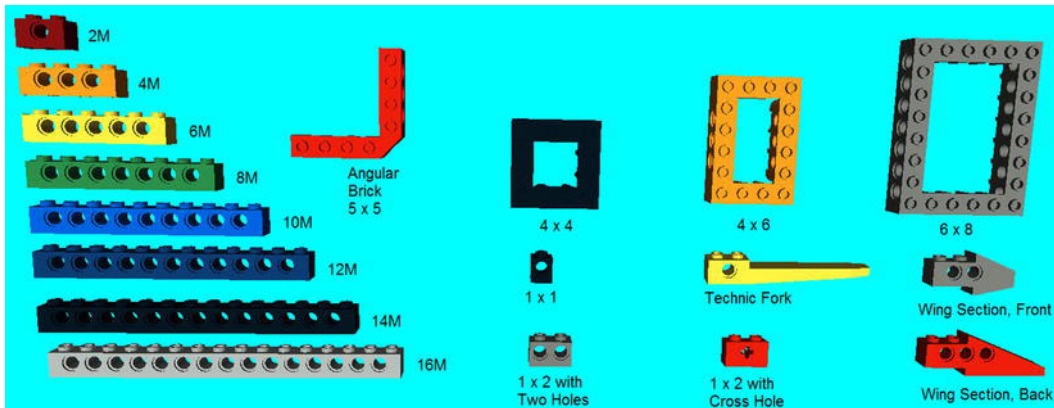

Figure 1-1. Some traditional LEGO Technic bricks
Technic Bricks are just like traditional LEGO bricks but with holes on the sides for axles and connector pegs (see Figure 1-1). Bricks, like most LEGO pieces, are measured by the amount of studs (the round bumpy parts atop a normal LEGO brick) on them, and this measurement is often abbreviated to M. Generally, the number of side holes is always one less than the studs, but there are some, like the 1 x 1 x 1 and 2 x 1 x 1, with the same amount of side holes as studs. There are some interesting methods to these pieces; for instance, the 2 x 1 x 1 has an axle or a cross-shaped hole. Note the variations with the Technic
- Brick: Any Technic brick shown in Figure 1-1 (and some I didn’t show).